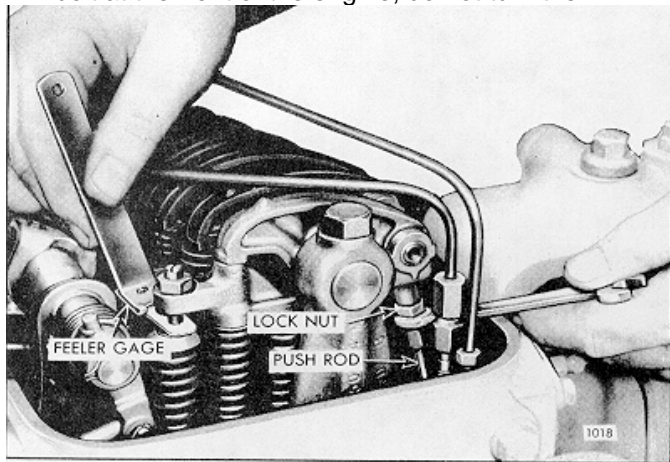

Fig. 2 - Adjusting Valve Clearance (Spring-Loaded Valve Bridge)
5. Place a .017 " feeler gage, J 9708, between the end of the exhaust valve stem and the valve bridge adjustment screw (spring-loaded bridge only) or between the valve bridge and the valve rocker arm pallet (unloaded bridge only) -- refer to Figs. 2 and 3. Adjust the push rod to obtain a smooth pull on the feeler gage.